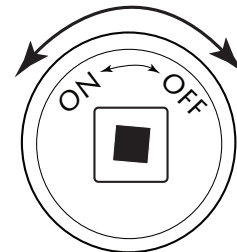

Fig. 13 Key Valve Face
1. Insert key into shut-off valve and secure into square end (See Figs. 13 & 14).